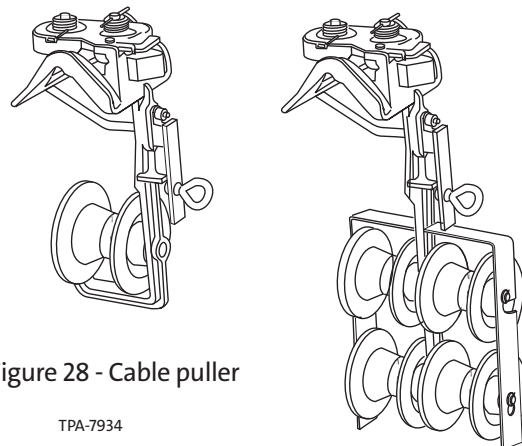

Figure 28 - Cable puller
2. Designed for general strand use, the cable blocks illustrated in this procedure are equipped with a cam-actuated, reversible locking mechanism (Figure 28).